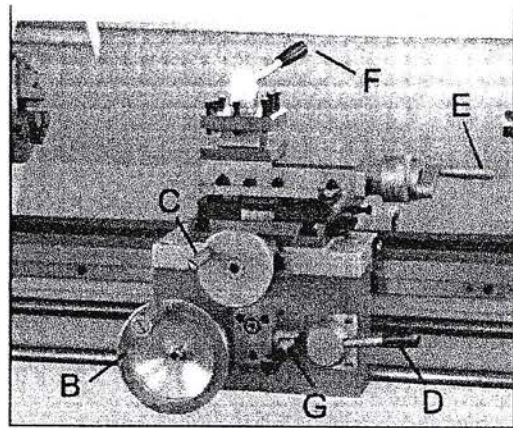

Fig. 15
10. Longitudinal Traverse (B, Fig. 15)
11. Cross Traverse Handwheel(C, Fig. 15)
12. Half Nut Engage Lever (D, Fig. 15)
13. Compound Rest Traverse Lever (E, Fig. 15)
14. Tool Post Clamping Lever (F, Fig. 15)
15. Feed axis Selector (G, Fig. 15)
Push lever (G, Fig.15) to the left and down to engage cross feed. Pull lever to the right and up to engage longitudinal feed.